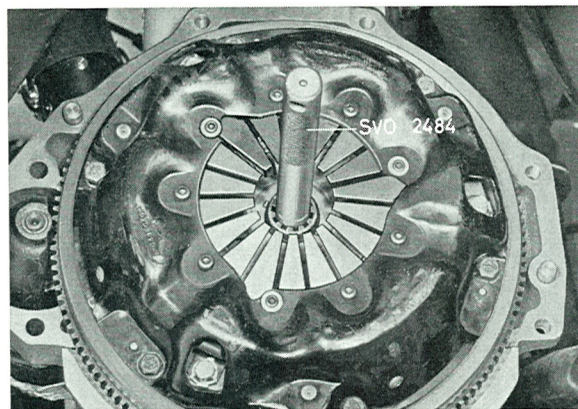

Fig. 4-10. Fitting the clutch
1. Set up the clutch plate (the longest side of the hub facing backwards) together with the clutch and insert the centering mandrel SVO 2484 so that the guide journal on this centres the pilot bearing in the flywheel, see Fig. 4-10.